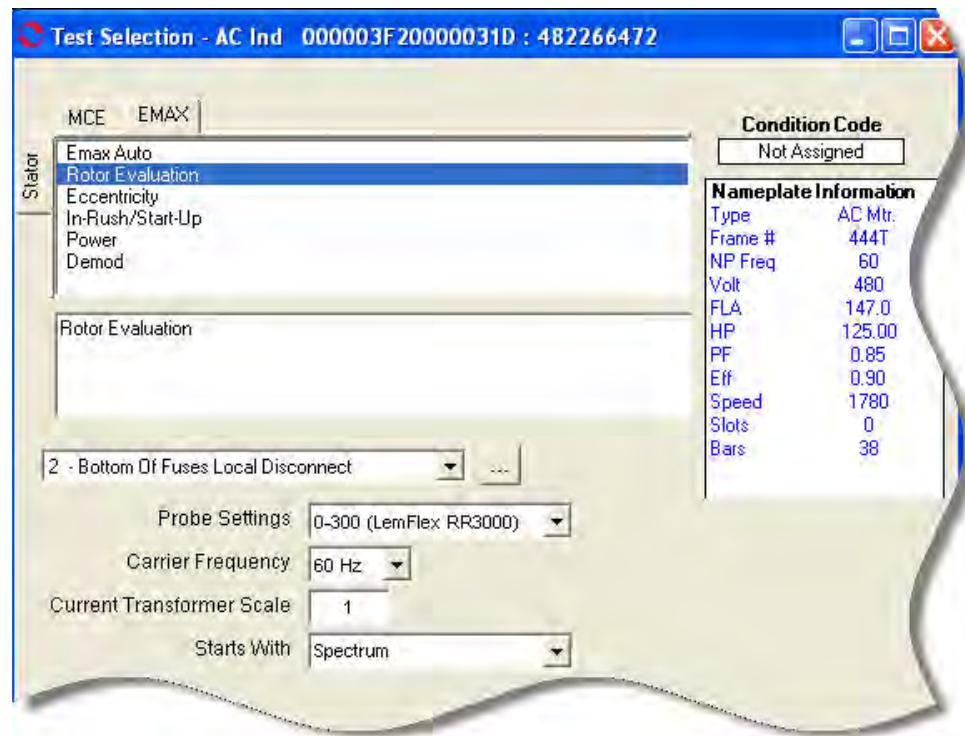

Figure 6-20: Rotor Evaluation Test Selection Window
4. Select the Test Selection icon  on the toolbar. The Test Selection window, shown in Figure 6-20 opens.